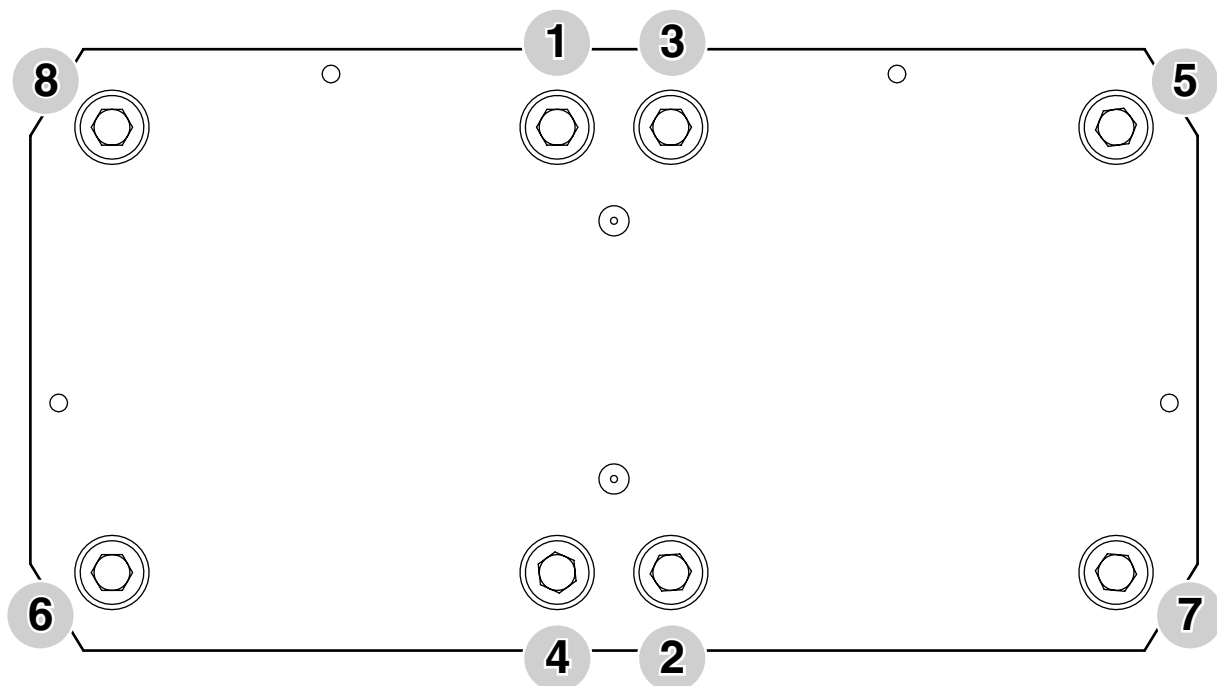

*Figure 1.*
2. Place a magnet over the controller reset area shown in Figure 1 for 8-10 seconds until the dryer re-sets. (See Figure 1)